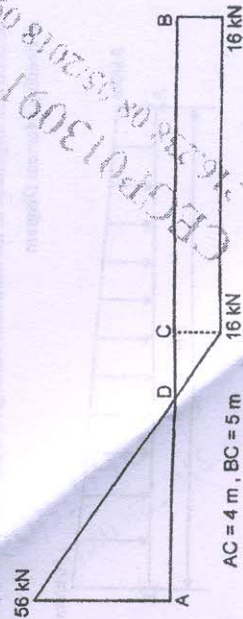

Fig. 6
- b) Construct loading diagram for the following shear force diagram for a beam as shown in fig. 6.